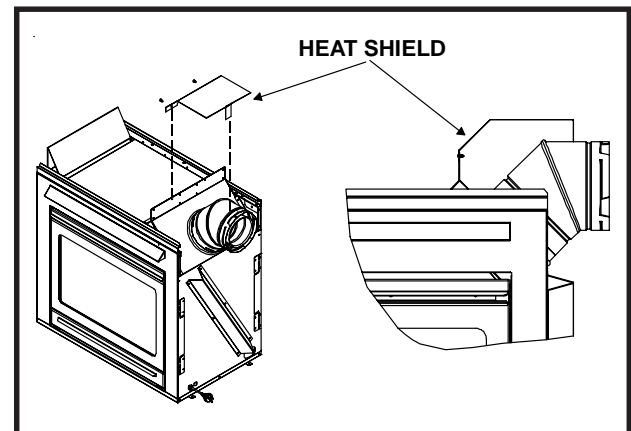

Figure 5
**NOTE:** When the 45° elbow is attached horizontally, the supplied heat shield must be installed (see Figure 5).